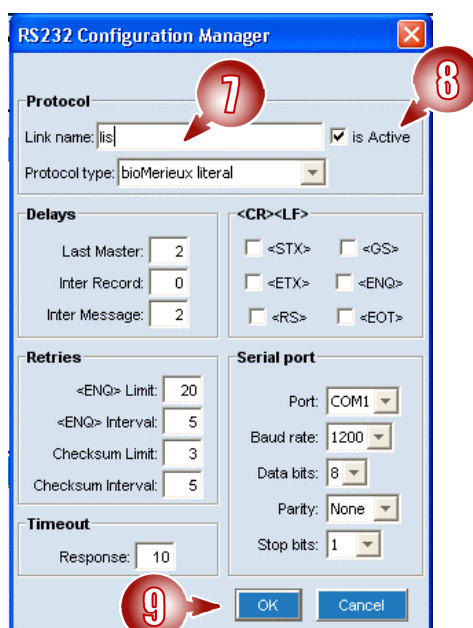

Figure 3-22: Example of RS232 link management
6. Click on **Properties...** and follow steps 7 to 9 in Figure 3-22 to modify the account.
**IMPORTANT!** *RS232 links can only be created, modified or deleted when the communication server is shut down. If the communication server is running, buttons (2) and (4) are shaded and disabled.*
2. **Add a link:** Click on **Add...** and follow steps 7 to 9 Figure 3-22 to add an RS232 link.
6. Click on **Properties...** and follow steps 7 to 9 in Figure 3-22 to modify an RS232 link.